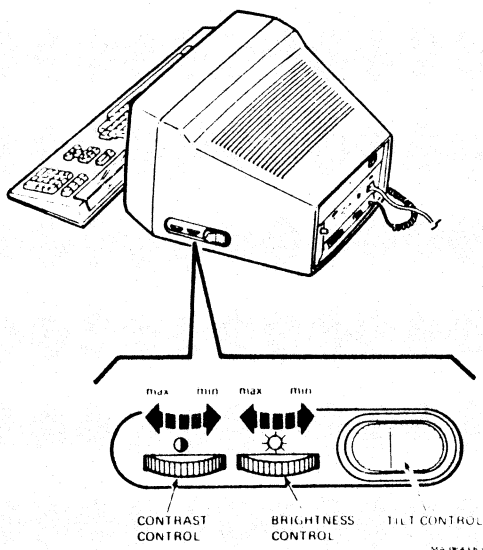

Figure 4-2 Brightness, Contrast, and Tilt Controls
2. Increase the brightness and the contrast controls to maximum (Figure 4-2).